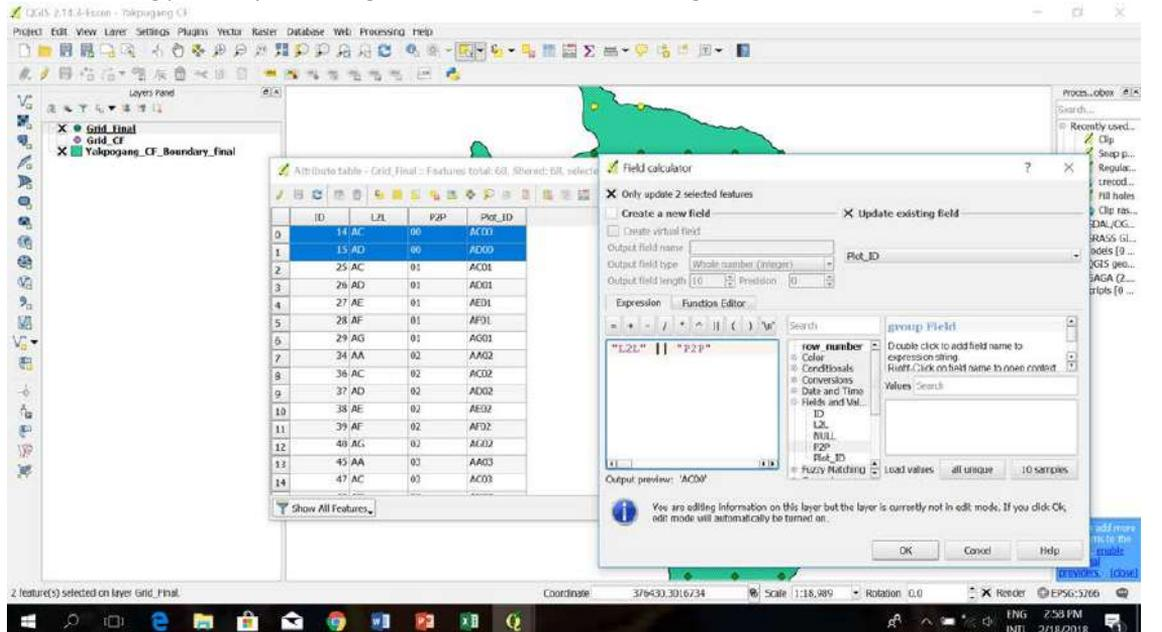

Figure 10e
- Generating plot ID by combining L2L and P2P as shown in the Figure 10e